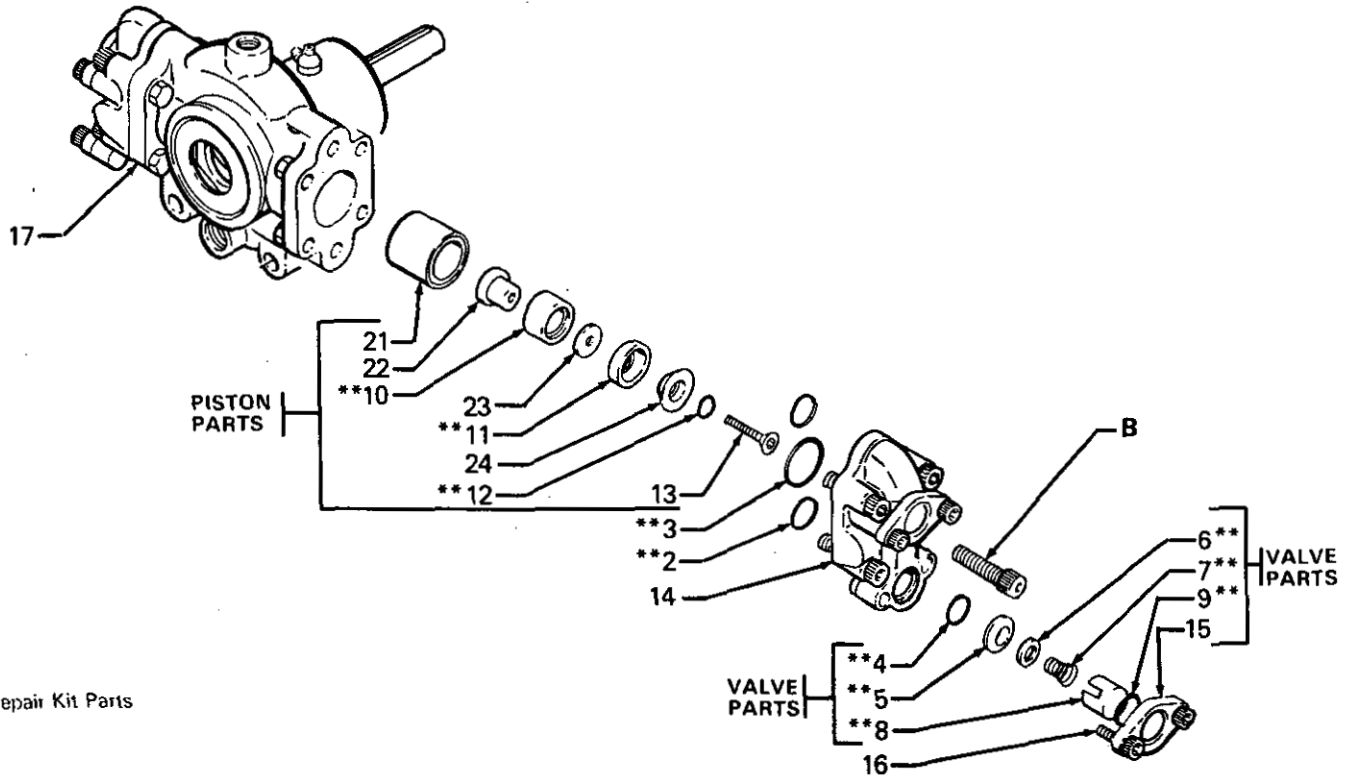

Fig 3
Take off the cylinder head (14) by removing four 1/2 in. socket head capscrews (A). See Fig 3.
Mount the valve disc (6) on the spring (7). See Fig 3. Then mount the spring in the cage recess (8). Slip this assembly into the head cavities behind the valve seat (5) and o-rings (4). Put the valve caps (15) over these and install bolts (16).